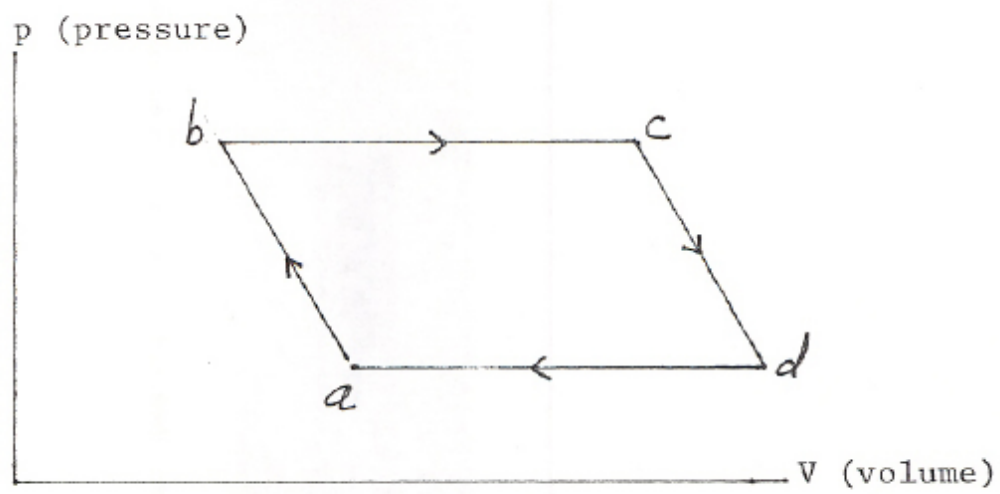

Figure 2:
The working substance, air, is confined by the volume of the cylinder below the piston, the volume of the tubing, and the volume of the air chamber. Fig. 2 shows a pressure-volume or p-V curve of a cycle of the heat engine. When operating the heat engine, a p-V curve is traced out on a graph display. The vertical axis of the graph is the pressure as read by the pressure gauge. The horizontal axis is the position of the piston as measured by the rotary motion sensor. The piston position is proportional to volume changes of the working substance.
**Refer to the p-V diagram of Fig. 2. Processes bc and da are isobaric (constant pressure). In the following, define a convenient notation such as  $V_a =$  the volume at a,  $V_b =$  the volume at b,  $p_{bc} =$  the pressure along process bc, etc.**